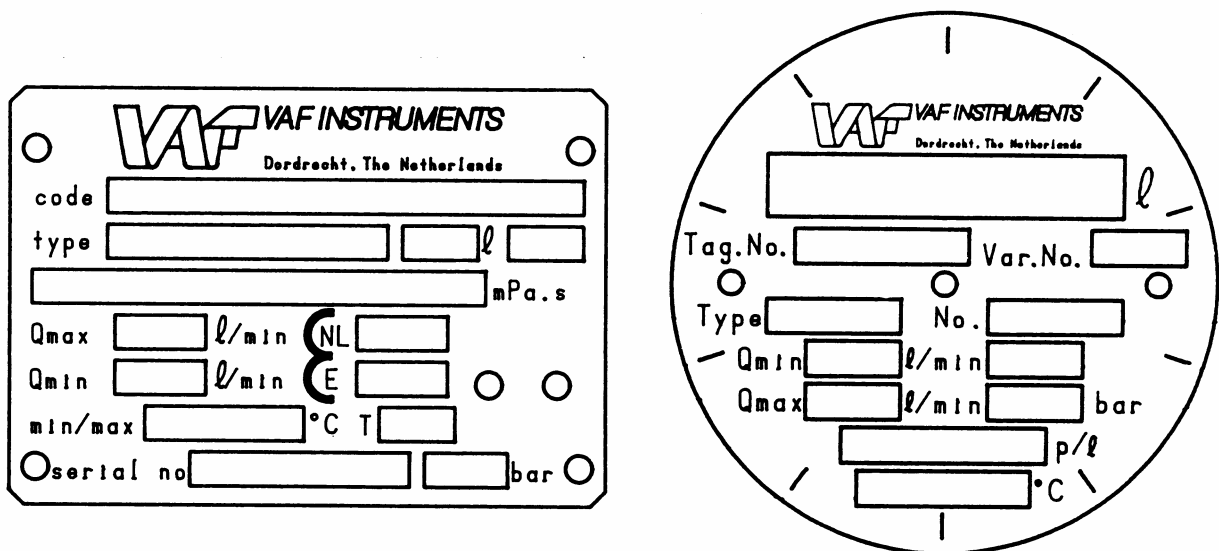

Fig. 1, Examples of text plates on pulse transmitter box (left) and totaliser (right).
2. Record text plate data in the relevant space of figure 1.
The flowmeter must be protected against aggressive and heavily polluted environmental conditions. The ambient temperature should be within the range of -15 to 55°C. For liquid temperature limits see textplate on flowmeter or figure 1.